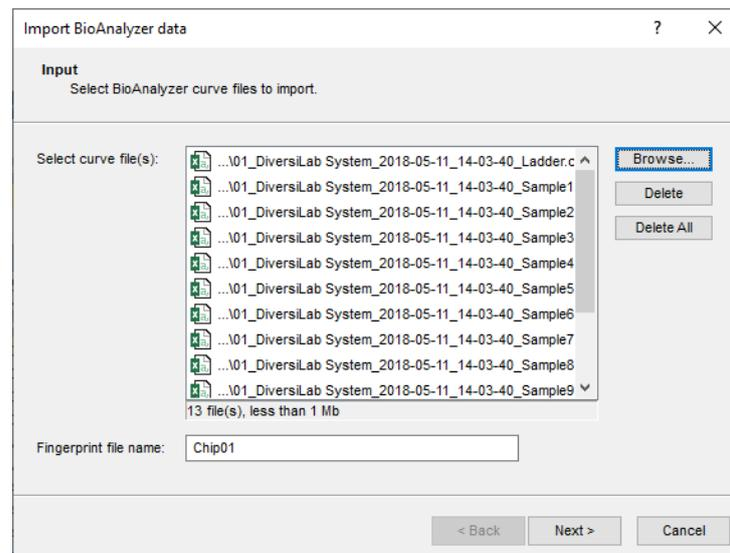

Figure 8: Select curve files from Chip01.
3. Browse to the downloaded and unzipped example data folder *Agilent* and select all Agilent 2100 BioAnalyzer csv files in the *Chip01* folder (see Figure 8). Press **<Next>**.